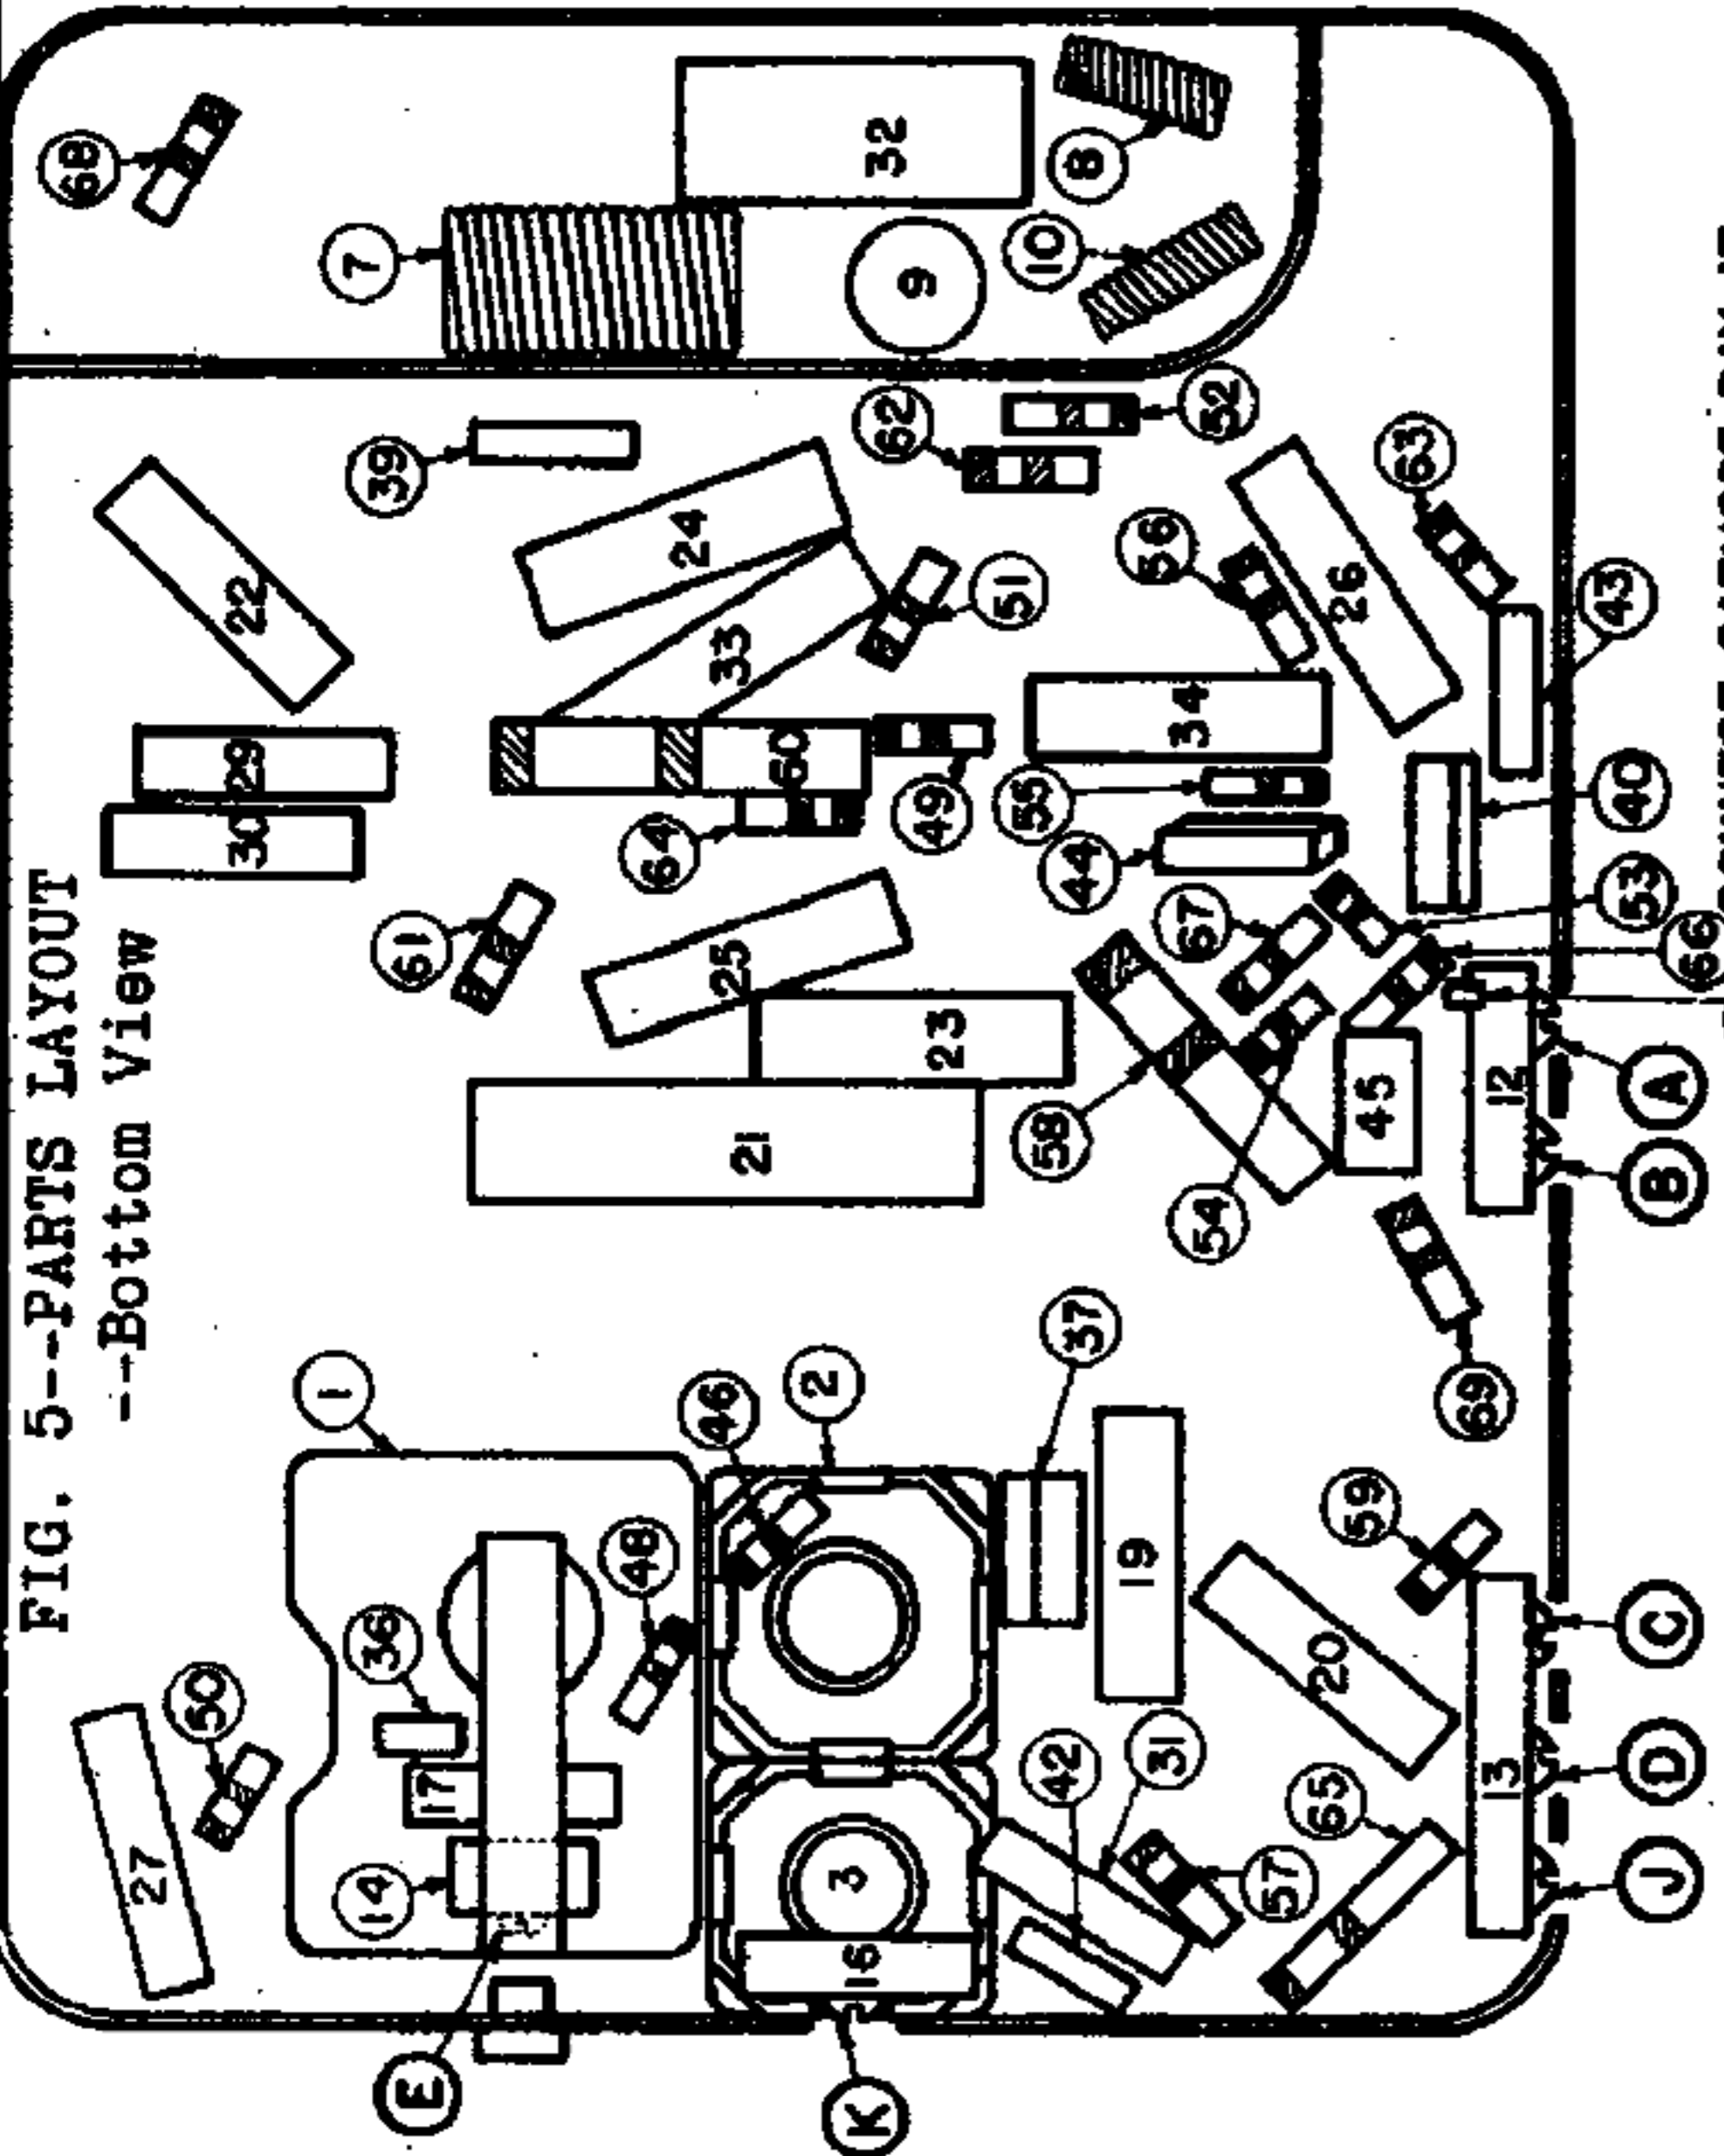

FIG. 5--PARTS LAYOUT
- (e) Adjust trimmers A, B, C & D through the cut-outs on the side of the chassis (illus. 12 & 13, Fig. 5) carefully for maximum output.
- (c) Adjust oscillator padder condenser "K" (Fig. 5) rocking gang condenser plates back and forth through the signal until maximum output is obtained.
- (e) Adjust antenna series condenser "E" (Fig. 5) for maximum output.
- (b) Adjust oscillator padder condenser "J" (Fig. 5) rocking gang condenser plates back and forth through the signal until maximum output is obtained.
- (a) Check alignment of antenna series condenser "E" (Fig. 5) for maximum output.
The Model 165 Cathode Ray Oscillograph should be used to check the I-F band spread after completing the "Alignment Procedure". Slight adjustment of the I-F stages may be found necessary in order to obtain a symmetrical selectivity curve. Connect Cathode Ray from connection "I" (Fig. 5) to ground.